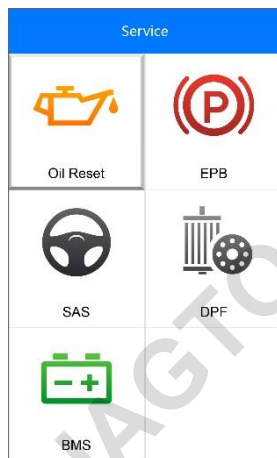

Figure 5-1 *Sample Service Functions Screen*
Select **Oil Reset** icon on the Service screen (Figure 5-1) and wait for the vehicle manufacturer screen. Choose the correct vehicle make.
1. Select **EPB** icon on the Service screen (*Figure 5-1*), choose **BMW** from the vehicle make screen and select the correct vehicle model to enter the **Parking Brake** menu.